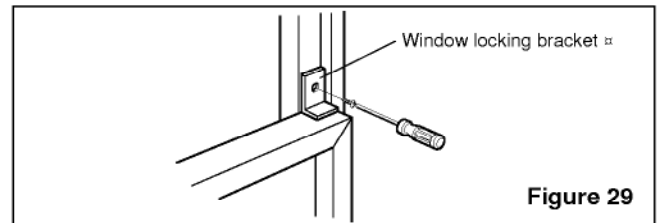

Figure 29
12. Attach the window locking bracket \times with a type C screw. (See Fig. 29)